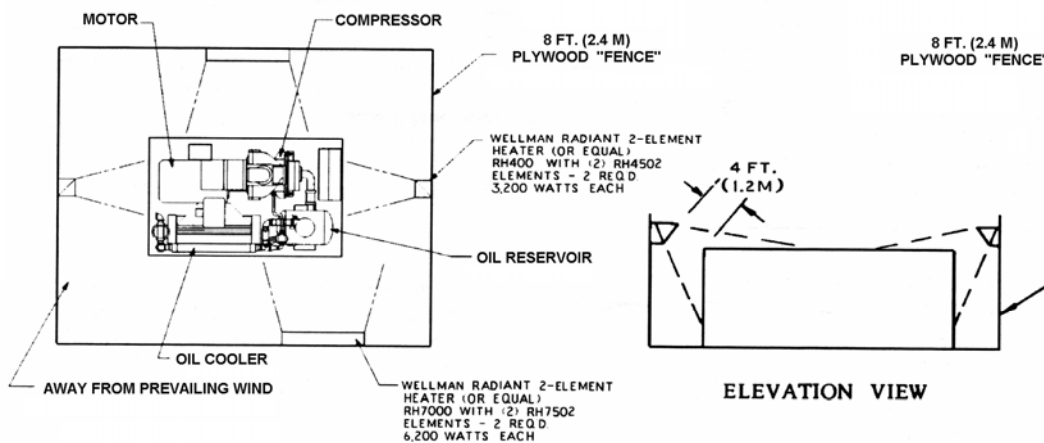

Figure 2-3 – COLD WEATHER INSTALLATION
INSTALLATION FOR COLD WEATHER OPERATION (Figure 2-3) - It is recommended that the unit be installed inside a shelter that will be heated to temperatures above freezing (32°F, 0°C). This will eliminate many of the problems associated with operating units in cold climates where freezing rain, drifting snow, freezing condensate and bitter cold temperatures are encountered.
3. Some means of providing heat during shutdown. Start-up should be provided. There are various methods to accomplish this, but since openings are not provided for sump heaters, the use of radiant heaters is recommended. The heaters should be sized to provide at least a +10° F (-12° C) environment for coolers, motor and sump. Figure 2-3, page 16, shows how these might be located in a typical installation and sizes required.